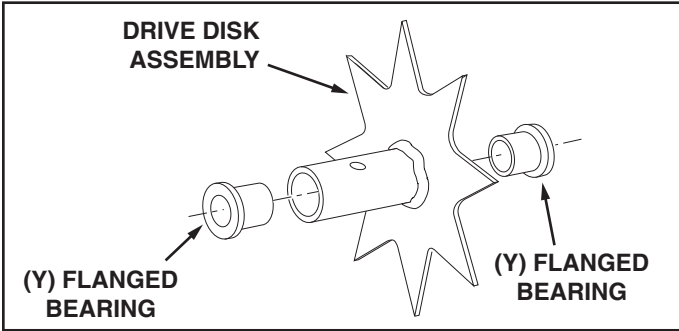

FIGURE 11
29. Install two flange bearings into each of the drive disk assemblies. See figure 11.